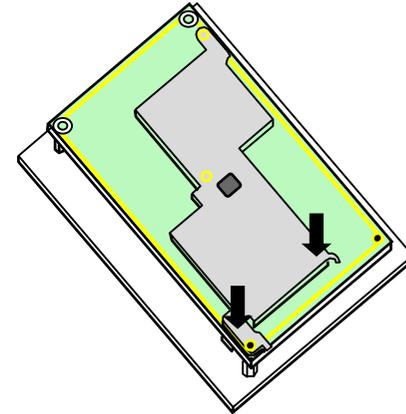

Figure 5-16. Insertion of the MMC-2 CPU Module
2. Insertion of the MMC-2 CPU module with a two-step method that consists of applying on two areas of the module's Thermal Transfer Plate. Insertion is achieved by pressing one end of the connector first and then by applying pressure on the other end.(Refer to Figure 5-16.)